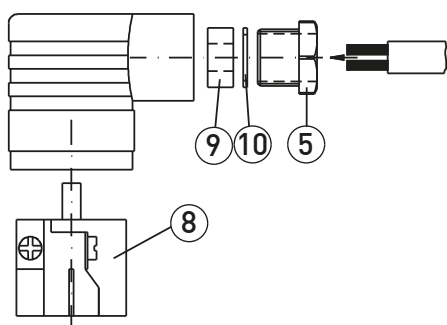

Fig. 4
- ✚ Feed the connection cable through the cable gland ⑤, the pressure ring ⑩ and the rubber insert ⑨ into the cable socket (→ Fig. 4).